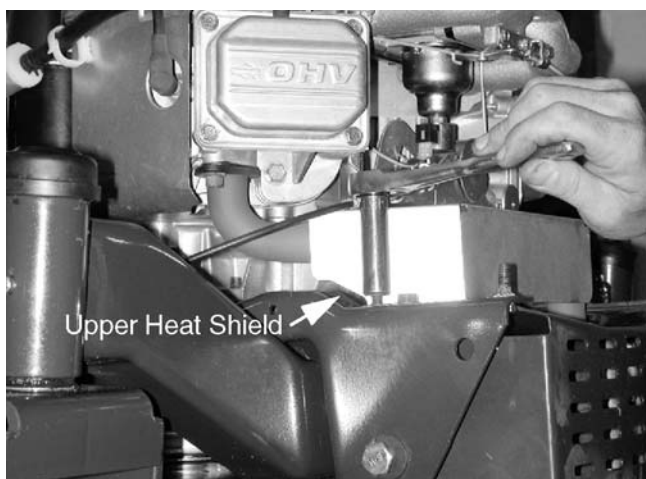

Figure 11-58
8. Unbolt the upper heat shield using a 1/2" wrench. See Figure 11-58.